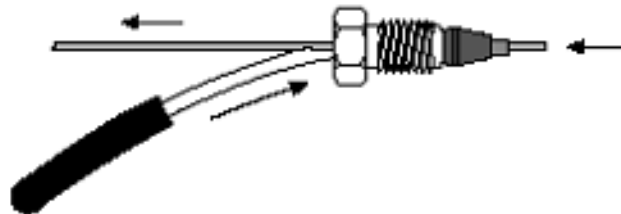

Figure 38 Position the column
- 5 Continue to hold the liner in place with the tool. Pull the column back until its end is flush with the liner (Figure 38).